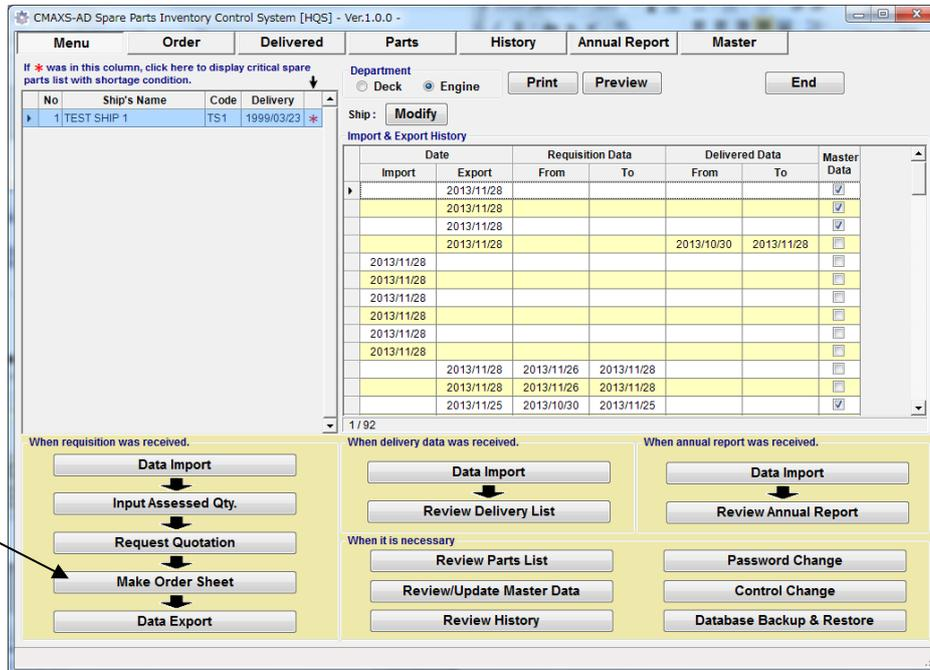

Fig.8-1 Menu Screen
- (1) On the “Menu Screen”(Fig.8-1), select [Make Order Sheet ].
- (8) Click [▼], and select supplier from drop down list.
- (9) Supplier can be set maximum 10 suppliers.
- (10)After select supplier, put check mark only you need item for order sheet
- (11)After select supplier, check [·] option button to make order sheet by Excel.
- (12)Select [Export], then Save as dialog is displayed.
- (13)Select “OK” button, then order sheet can be made by Excel.
- (14)Send order sheet to supplier.
- (15)Select [Menu], then return to “Menu Screen”(Fig.8-1).
- (16)On the “Menu Screen”(Fig8-1), select [Data Export] so as to send order sheet to shipboard.